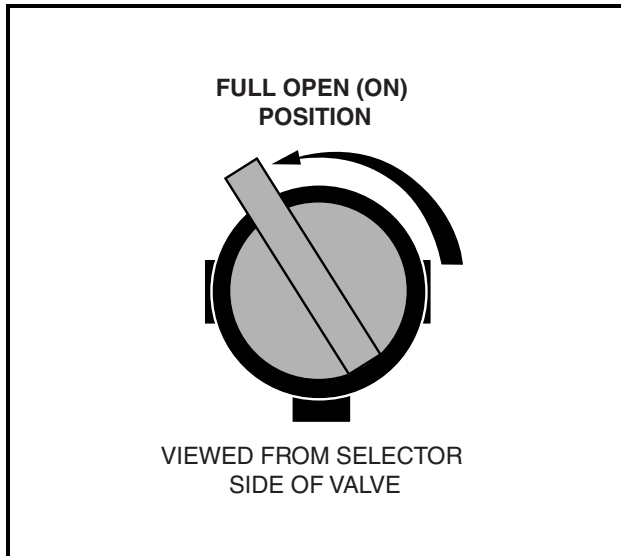
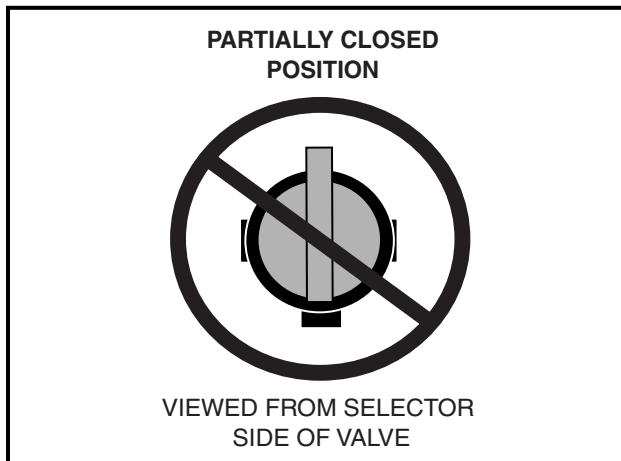

Figure 3-6 Fuel Valve - Open
Figure 3-8 Fuel Valve - Partially Closed
5. Completely open fuel shut-off valve (**Figure 3-6, Page 3-4**). A partially closed fuel valve (**Figure 3-8, Page 3-4**) combined with the use of the choke, can result in a fouled spark plug and engine failure.